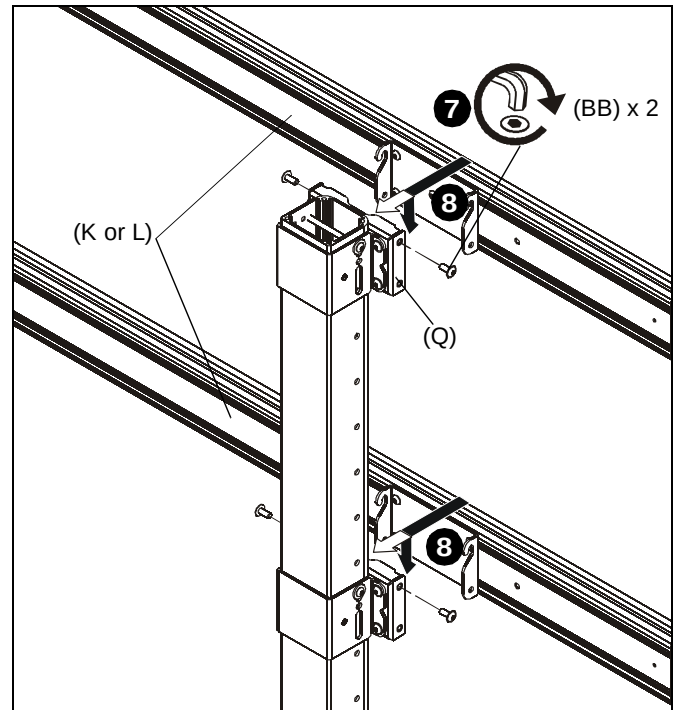

Figure 9
7. Install two 5/16-18 x 3/4" button head flange screws (BB) into the top holes on each quick connect base (Q). (See Figure 9)
8. Hang rails (K or L) into screws installed in previous step to quick connect bases (Q). (See Figure 9)